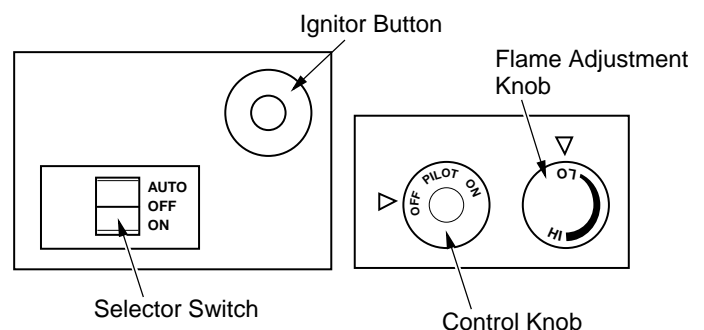

Figure 29 - Control Knob and Ignitor Button Location (Shown as Supplied, No Control Options)
5. Wait five (5) minutes to clear out any gas. Then smell for gas, including near the floor. If you smell gas, **STOP!** Follow "B" in the safety information, column 1. If you don't smell gas, go to the next step.
6. Press in and turn control knob counterclockwise  to the PILOT position. Press in control knob for five (5) seconds (see Figure 29).